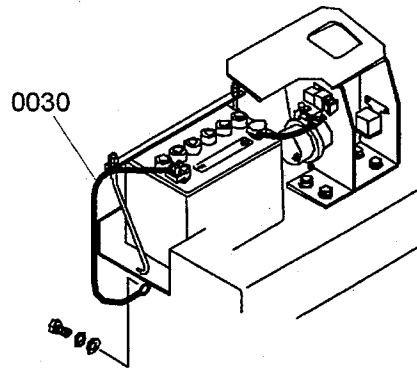

Fig12-51:
1. Fig12-51: Disconnect the battery negative cable (0030).